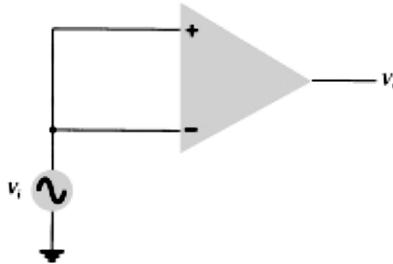

Fig. 1-7
**Common-Mode Operation:** When the same input signals are applied to both inputs, common-mode operation results, as shown in Fig. 1-7. Ideally, the two inputs are equally amplified, and since they result in opposite polarity signals at the output, these signals cancel, resulting in 0-V output. Practically, a small output signal will result.